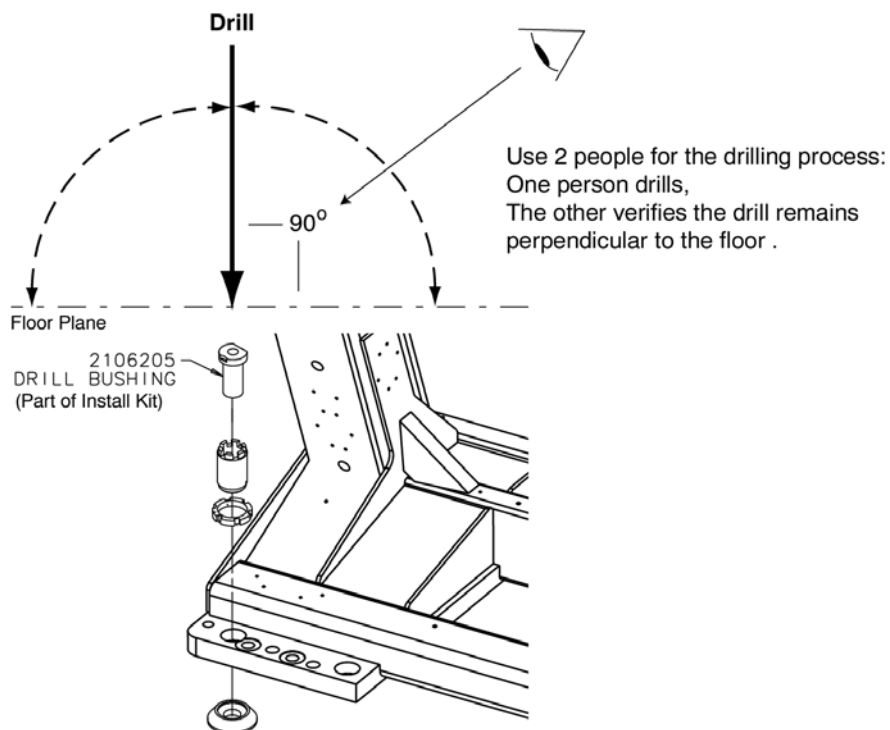
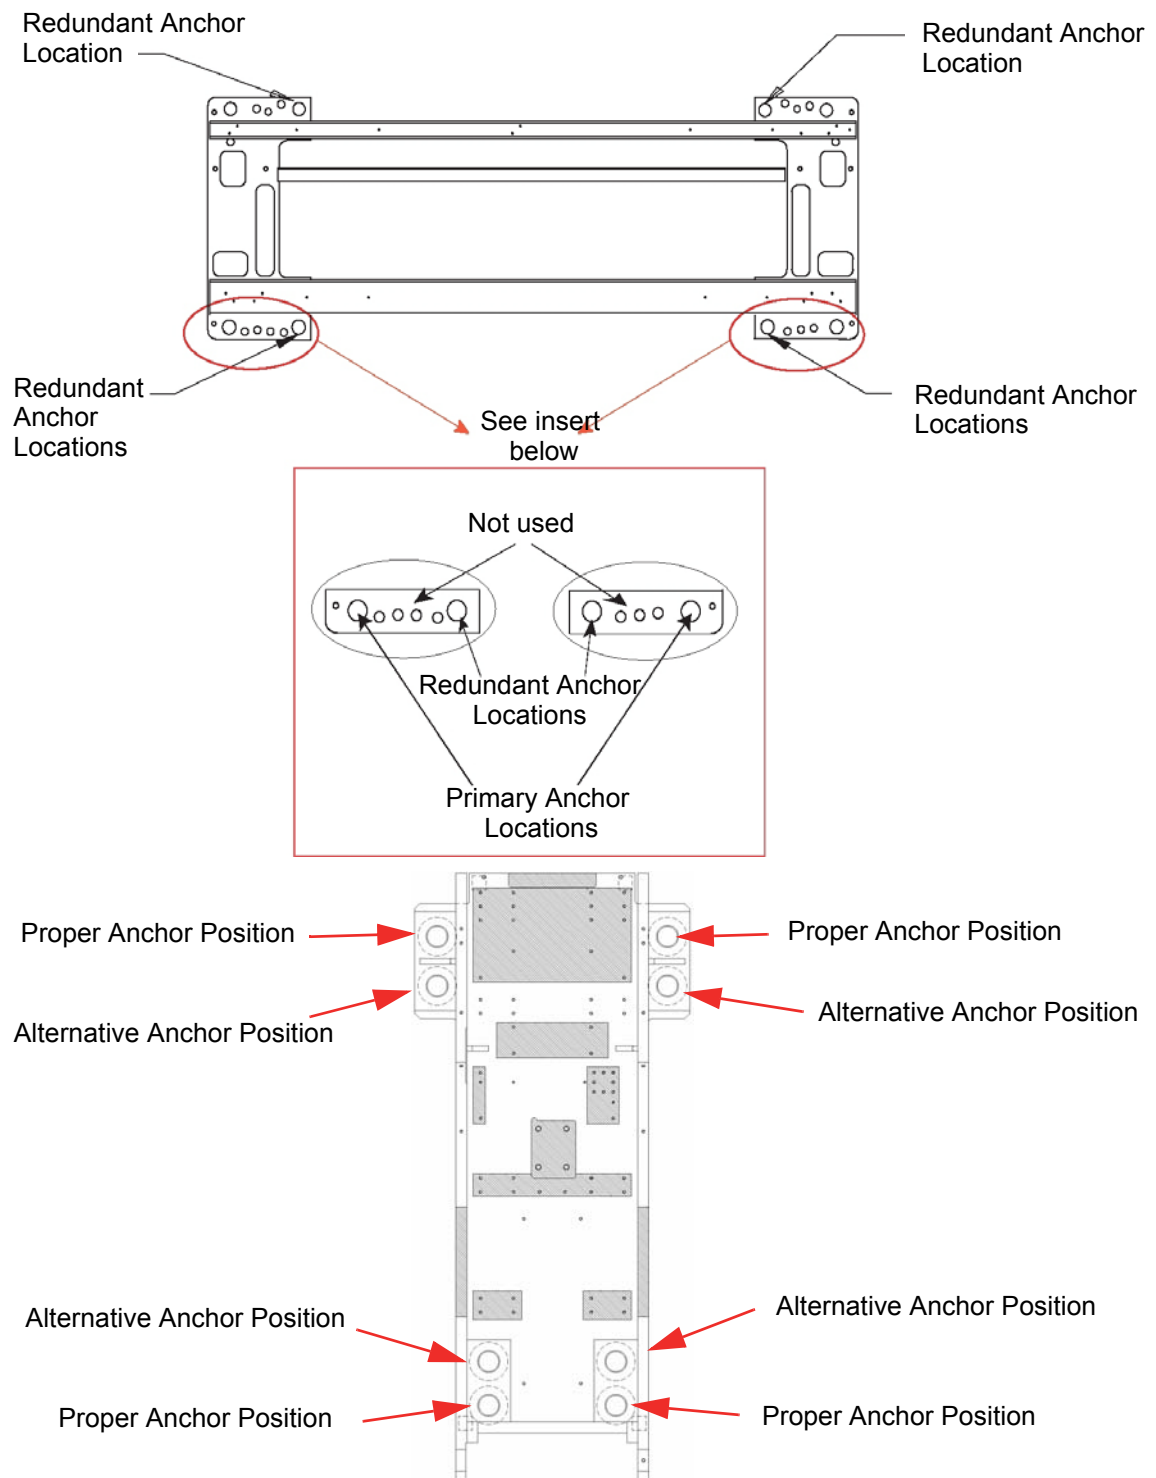

Figure 1-49 Drilling Position
Figure 1-50 Anchor Locations
- 4.) Use the $\frac{1}{2}$ " bit to drill all eight (8) anchor holes to a depth of 7- $\frac{1}{2}$ " (190mm) as measured from the top of the drill bushing. Review Figure 1-49 and Figure 1-50 prior to drilling.
If you cannot use one of the adjuster anchor holes due to structural interference, such as reinforcement bars in the concrete, you must use one of the alternate anchor locations, as shown in Figure 1-50. You must also move the respective leveler(s) and pad(s) to the new alternate location(s) and re-drill.